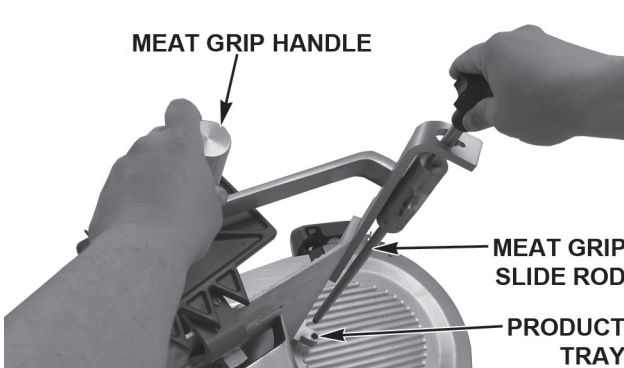

Fig. 7
- The Meat Grip (Fig. 7) is mounted on the Product Tray and can be removed for ease of cleaning.